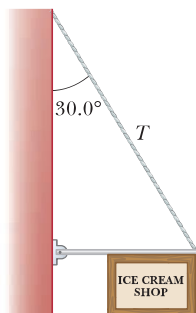

Figure P12.63
63. **M** A 500-N uniform rectangular sign 4.00 m wide and 3.00 m high is suspended from a horizontal, 6.00-m-long, uniform, 100-N rod as indicated in Figure P12.63. The left end of the rod is supported by a hinge, and the right end is supported by a thin cable making a 30.0° angle with the vertical. (a) Find the tension T in the cable. (b) Find the horizontal and vertical components